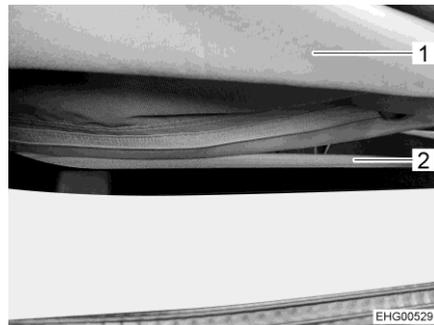

Fig. 33 Zip
- Fully open the zip (Fig. 33,2) on the underside of the bellows (Fig. 33,1).